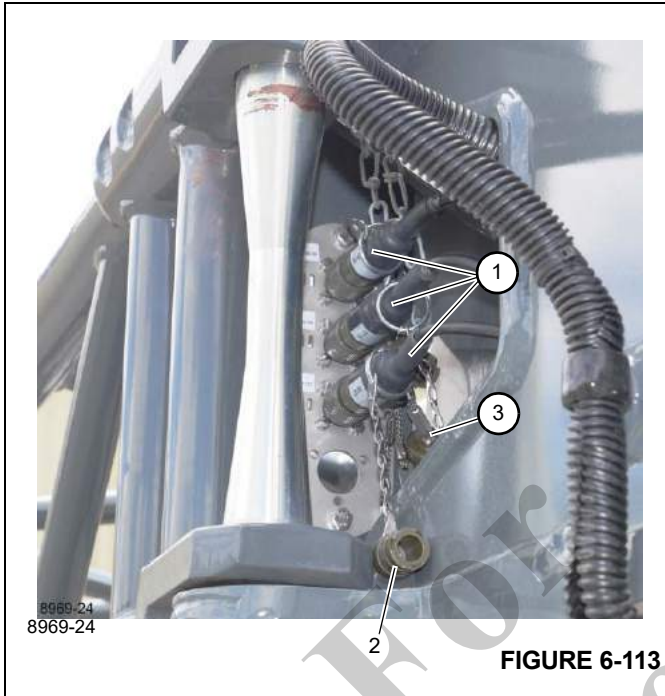

FIGURE 6-113
1. Remove the plugs (1), (Figure 6-113) from the sockets and seal the plugs with their caps (2), (Figure 6-113). Seal the sockets with their caps (3), (Figure 6-113).